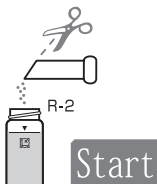

Fig.5
7. Add R-2 Reagent into the vial and press <Start>. (Fig.5)